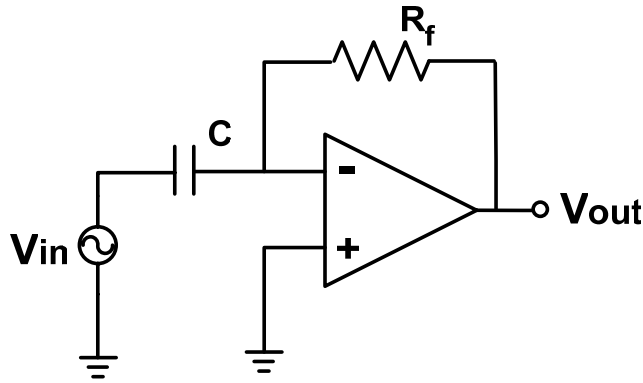
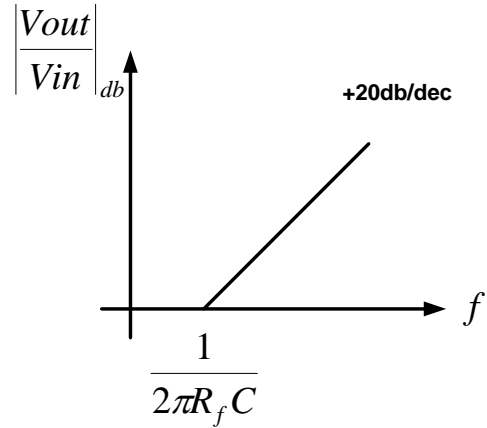
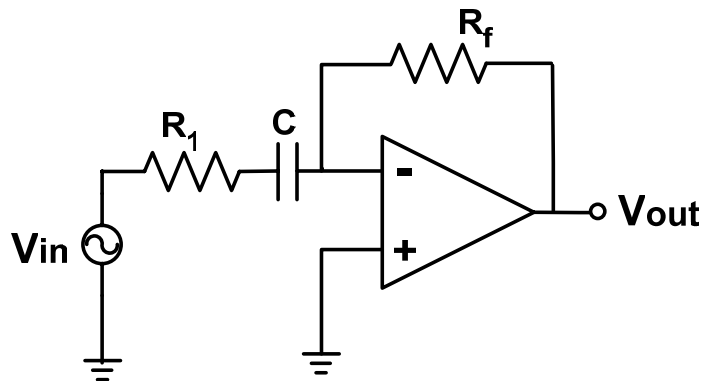
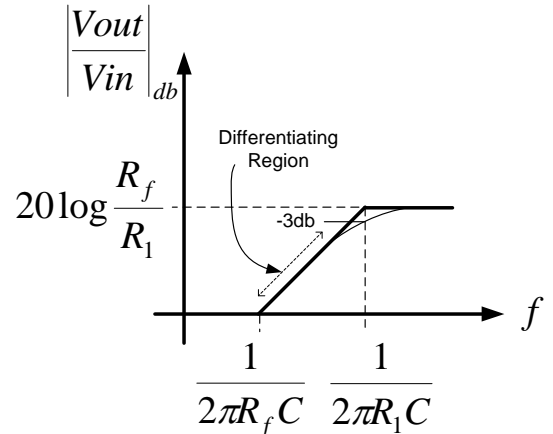

Figure 5: Ideal Differentiator
Figure 6: Frequency response of an Ideal Differentiator
Figure 7: Practical Differentiator
Figure 8: Frequency response of an Ideal Differentiator
Shown in Fig. 5 is an ideal differentiator and its frequency response in Fig. 6.
- c. As shown in Fig. 6, an ideal differentiator will exhibit a very large gain at high frequencies since the capacitor acts as an open circuit. This fact may cause some oscillations at some high frequency. To fix this problem, a resistor is added in series to the capacitor as shown in Fig. 7. This circuit is called a practical differentiator and its frequency response is shown in Fig. 8.